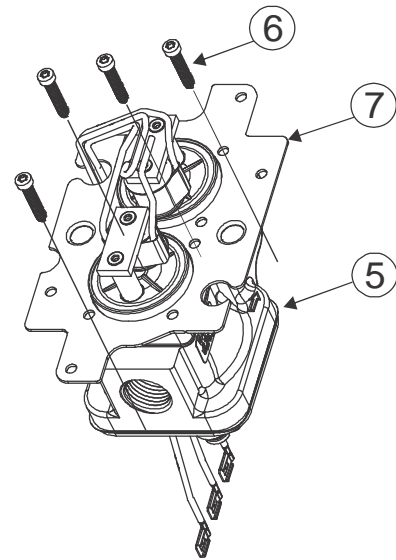

Figure 6:
2. Place 8 (#8 x .75") screws (Item 6) 4 from the kit and the original 4 screws removed on Figure 6 mounting holes. Secure the mounting plate (Item 8) and the two coils (Item 9) to the valve body (Item 5). Tighten screws (Item 6) in a crossing pattern to hold the mounting plate (Item 8) in place. Torque all 8 (#8 x .75") screws (Item 6) to (10-15 in.lb).